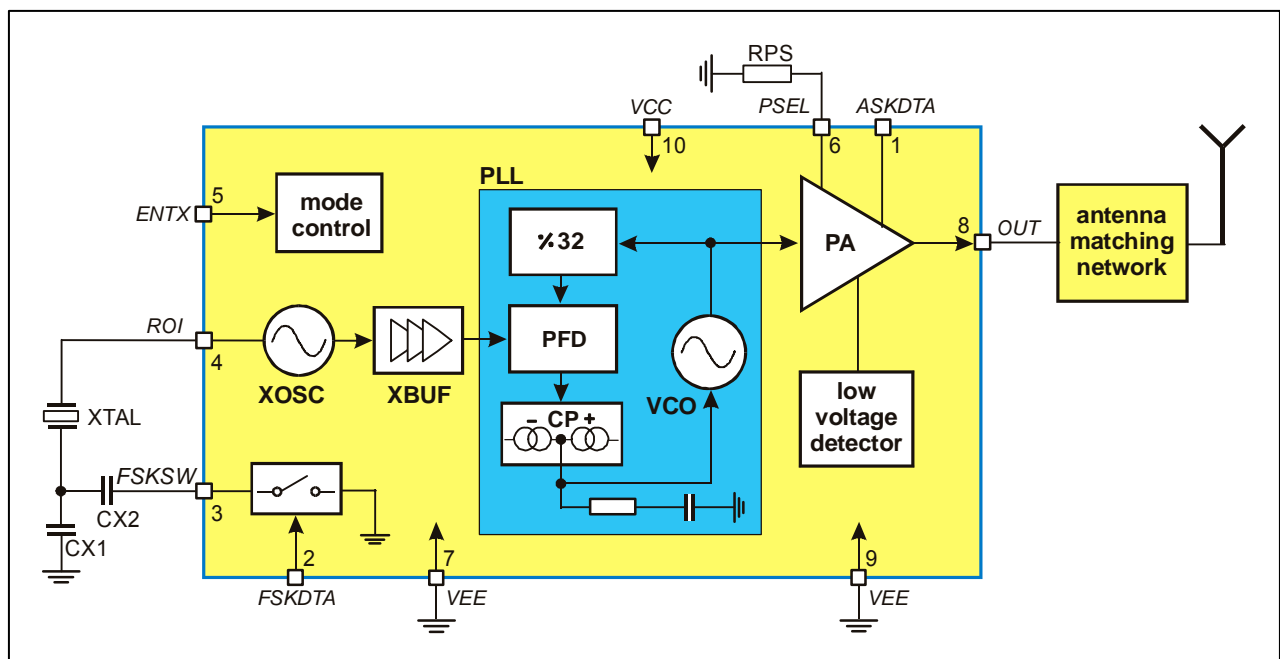

Fig. 1: Block diagram with external components
As depicted in Fig.1, the TH72035 transmitter consists of a fully integrated voltage-controlled oscillator (VCO), a divide-by-32 divider (div32), a phase-frequency detector (PFD) and a charge pump (CP). An internal loop filter determines the dynamic behavior of the PLL and suppresses reference spurious signals. A Colpitts crystal oscillator (XOSC) is used as the reference oscillator of a phase-locked loop (PLL) synthesizer. The VCO's output signal feeds the power amplifier (PA). The RF signal power P_{out} can be adjusted in four steps from $P_{out} = -12$ dBm to +9.5 dBm, either by changing the value of resistor RPS or by varying the voltage V_{PS} at pin PSEL. The open-collector output (OUT) can be used either to directly drive a loop antenna or to be matched to a 50Ohm load. Bandgap biasing ensures stable operation of the IC at a power supply range of 1.95 V to 5.5 V.